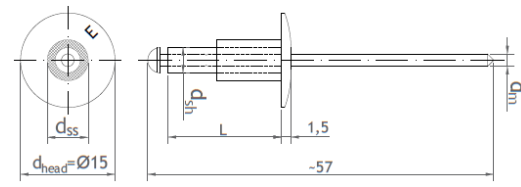

Figure 4 - Equitone UNI rivet 4xL K15
- EQUITONE stainless or aluminium UNI rivet 4xL K15 (see Figure 4) into metal battens or sub framing system